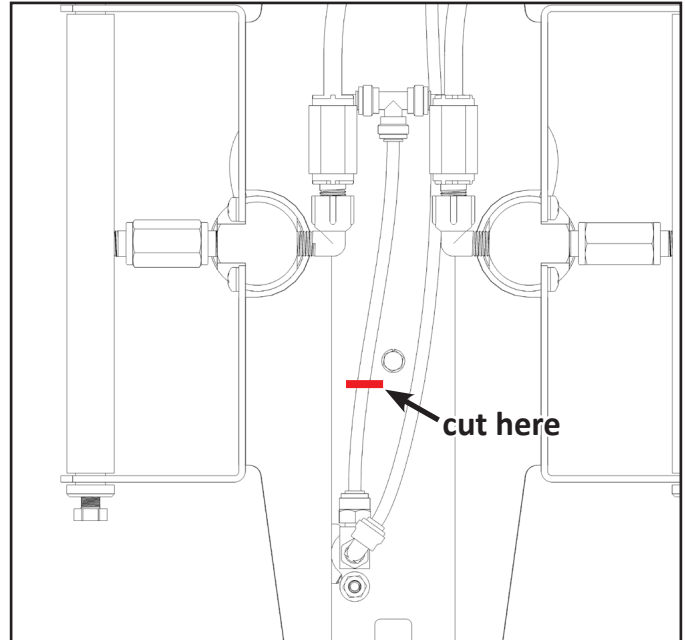

Fig. 6.1: Airline cut location for tee
6. Cut the 1/4" airline before the tee fitting, as indicated in [Fig. 6.1] .